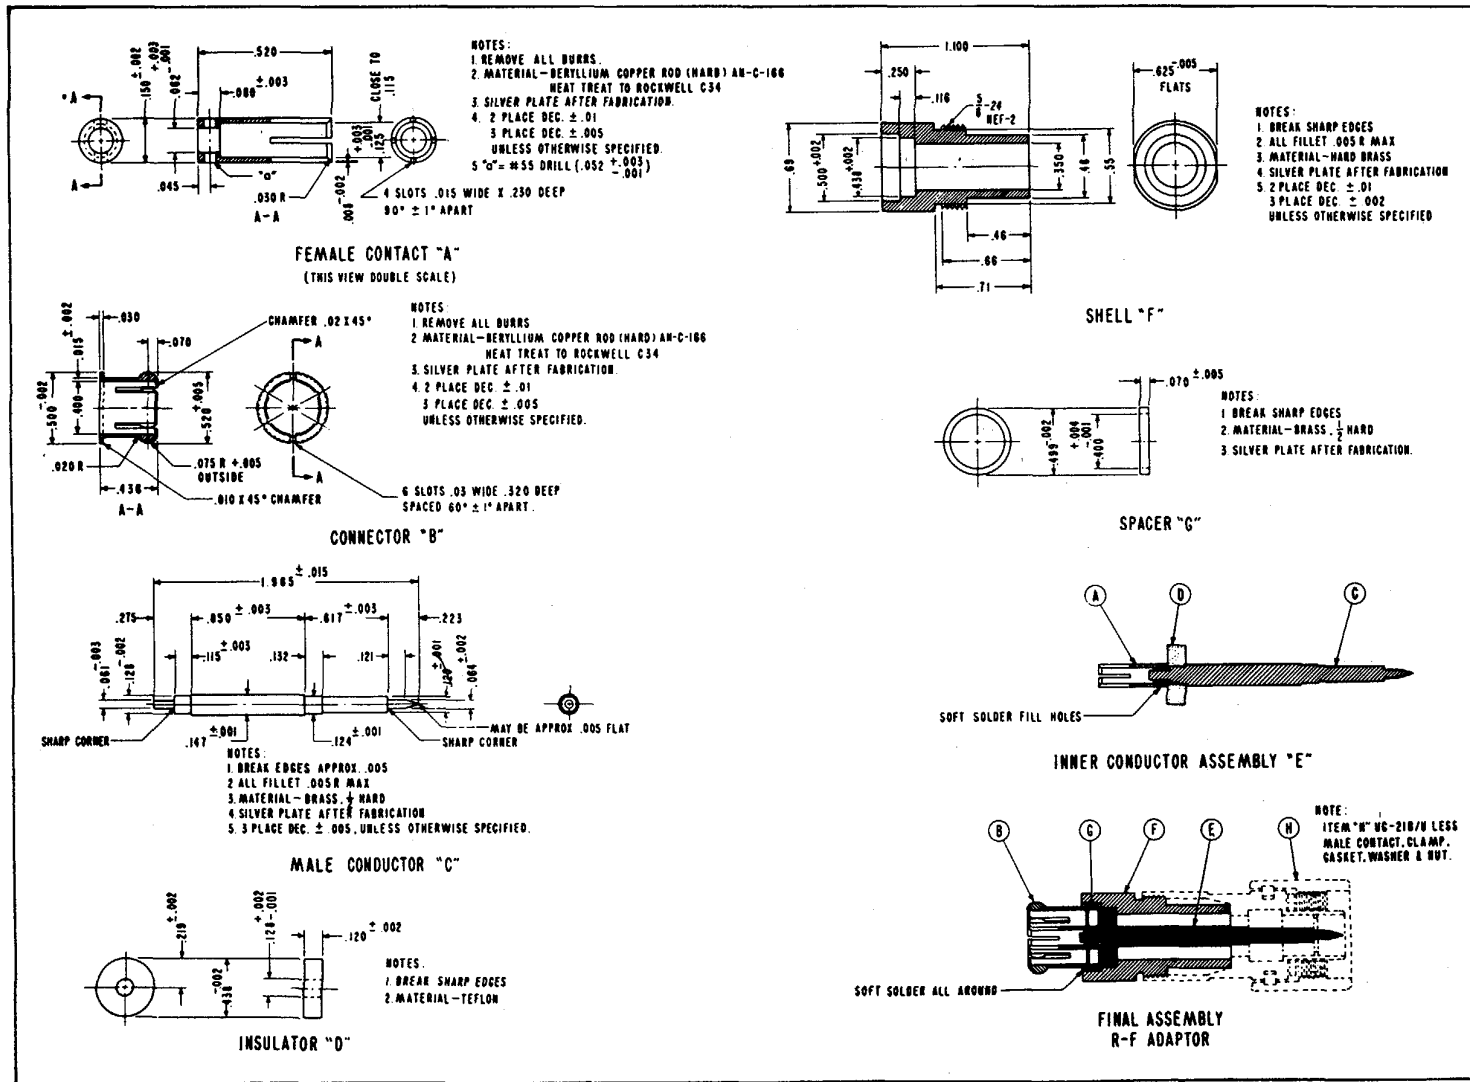

Figure 9-6. Fabricated R-F Adaptor for Antenna Coupler CU-1 74/APA-69
h. An r-f adaptor fitting fabricated according to figure 9-6.
9-39. In order to couple the components used in testing the Antenna Coupler CU-174/APA-69 to the rotating joint or input end of the coupler, it is necessary to have an r-f adaptor which will make the connection without adding to the VSWR of the assembled unit. Fabrication instructions for such an adaptor follow. (See figure 9-6 for complete machining and assembly instructions.)